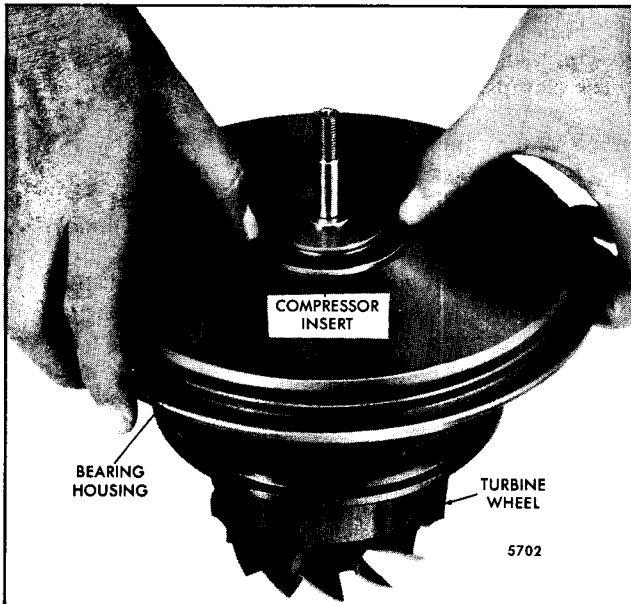

Fig. 17 - Installing Compressor Insert in Bearing Housing
12. Lubricate the thrust cavity in the bearing housing and install the insert, oil deflector and thrust sleeve assembly over the shaft and into the bearing housing (Fig. 17). Align the oil deflector to mate with the oil drain cavity in the bearing housing.